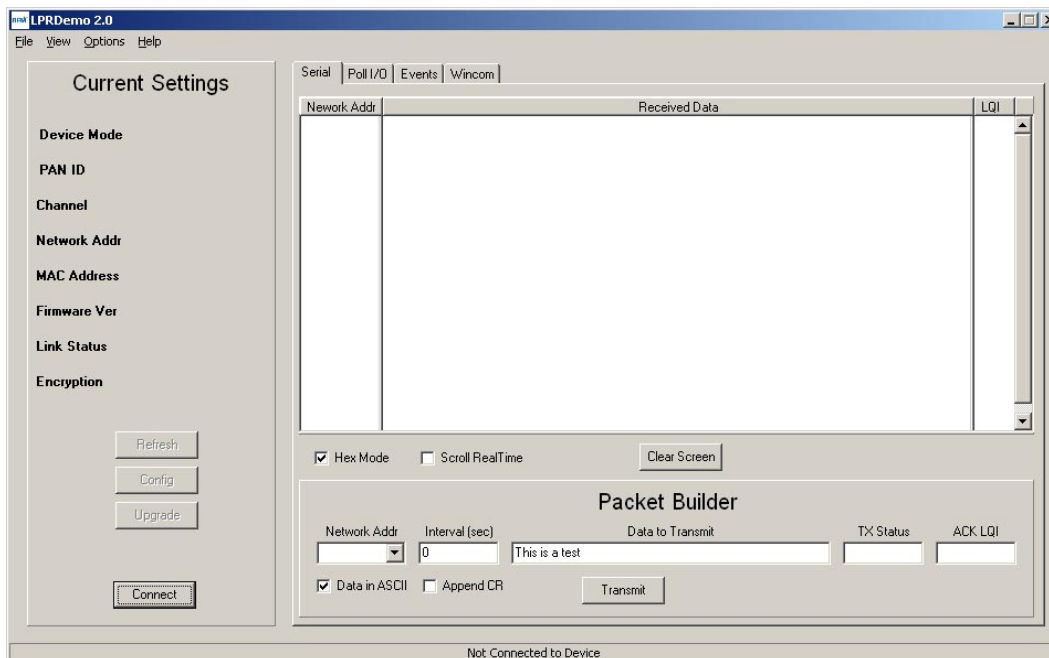

Figure 5.3.3
5. Copy LPRDemo2.exe from the *Programs* folder on the kit CD to a convenient folder on the PC. This program runs using ordinary Window's resources and does not require any framework installations, registry entries, etc., to run. Start LPRDemo2. The start-up window is shown in Figure 5.3.3.